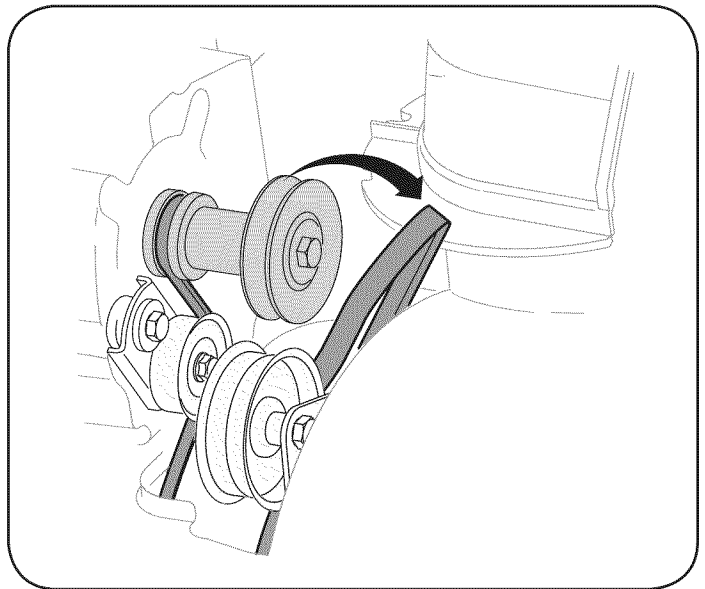

Figure 31
4. Roll the auger belt off the engine pulley. See Figure 31.